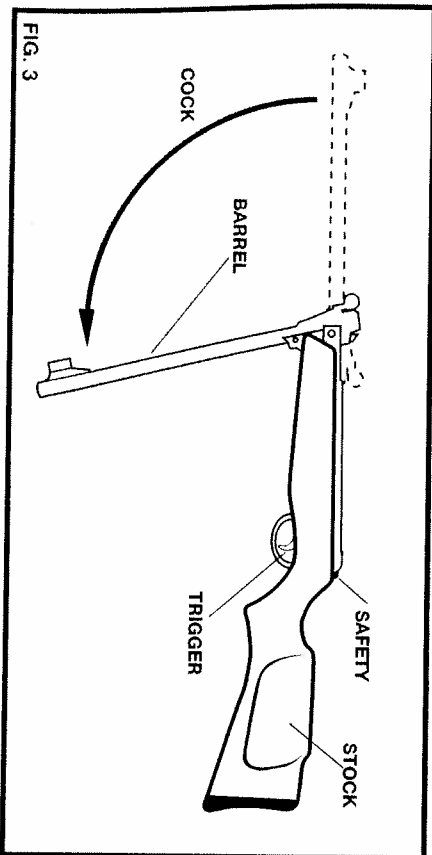

FIG. 3
Grasp the barrel near the muzzle end and pull downward and to the rear until it comes to a solid stop. This is a single-stroke, spring airgun. (See Fig. 3).
**CAUTION:** Never attempt to clean the gun until the gun is unloaded. To clean the gun, cock the gun (Fig. 3) and be sure the safety is in the "ON" position (NO RED DOT SHOWING). After cleaning the gun, close the breech, point in a safe direction, take "OFF" safety (RED DOT SHOWING), and dry fire.